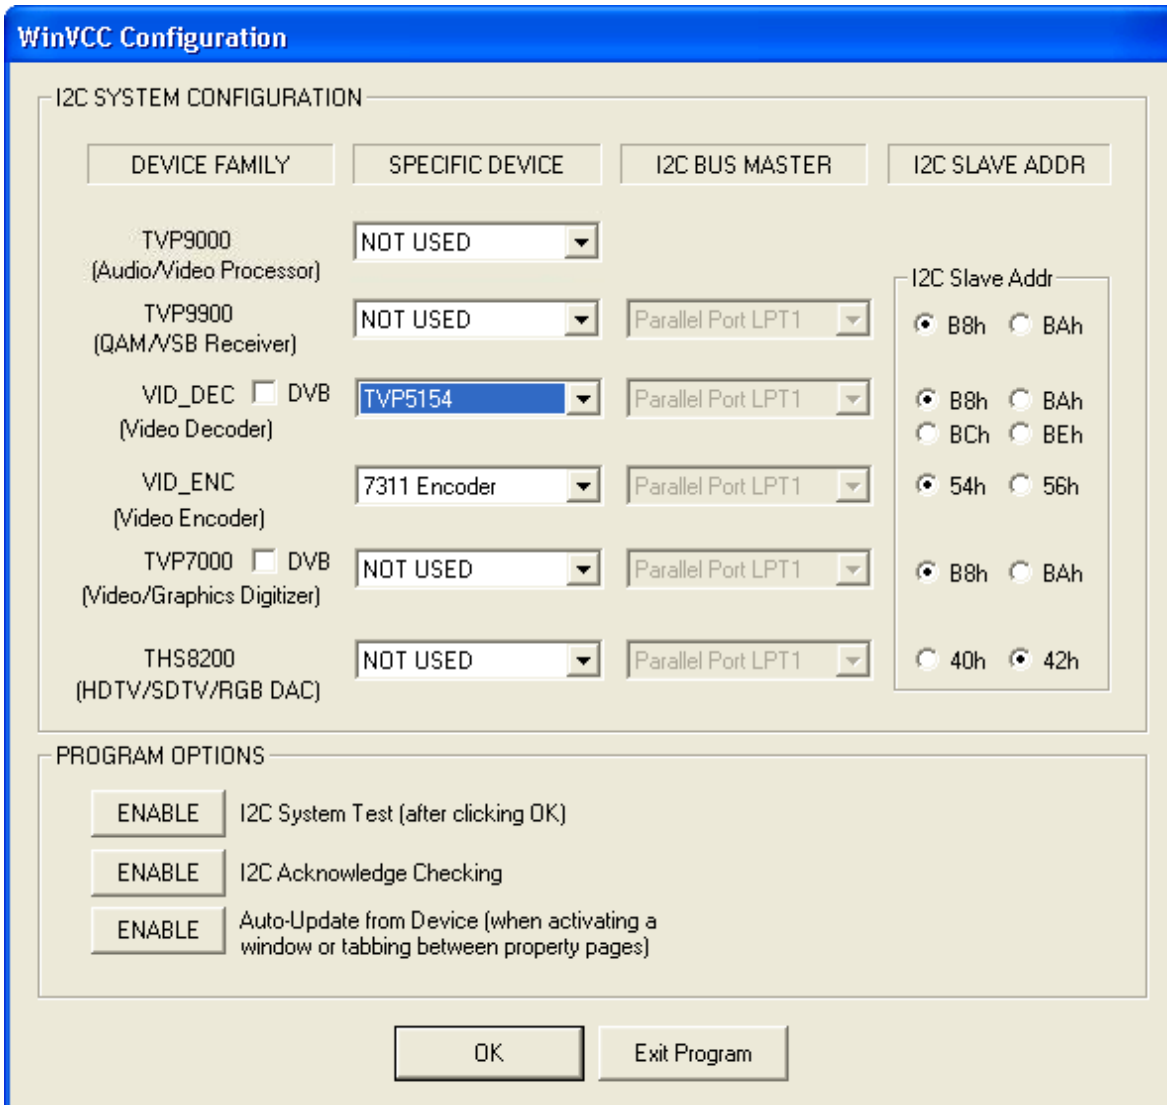

Figure 1. WinVCC – I²C Configuration Screen
1. Once WinVCC is executed, the WinVCC Configuration screen appears (see Figure 1). This dialog box configures the I²C bus. Next to VID_DEC, select the TVP5154 and ensure the I²C address is set to 0xB8. This must match the I²C ADDR jumper on the TVP5154 board.